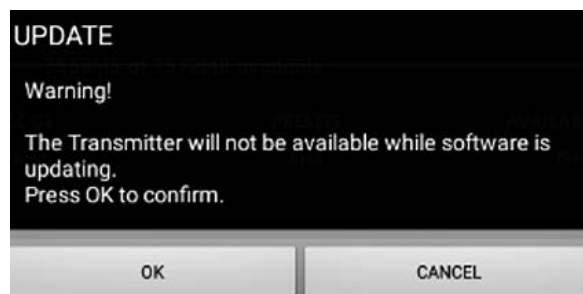

Figure 121: Update Confirmation Screen
5. At the screen shown in *Figure 121* below, click the OK button to confirm the update and continue.